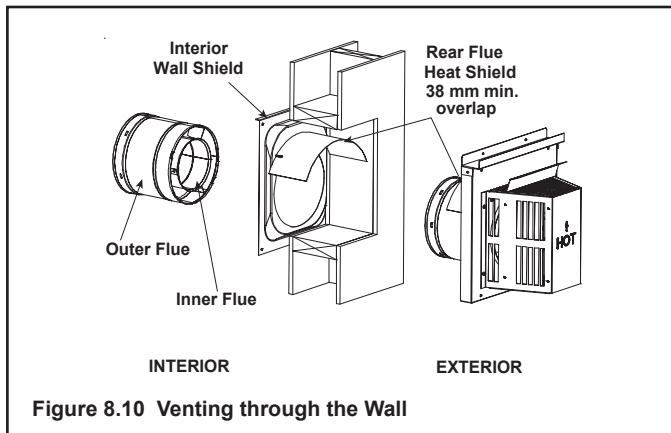

Figure 8.10 Venting through the Wall
- One section of the heat shield is attached to the wall shield. The other is attached to the termination cap in the same manner (see Figure 8.10).
- The small leg in the shield rests on top of the flue to properly space it from the pipe section (see Figure 8.10).
- **DO NOT** remove the heat shields attached to the wall shield firestop and the horizontal termination cap (shown in Figure 8.10).
There are two sections of the heat shield. One section is factory-attached to the wall shield firestop. The other section is factory-attached to the cap. See Figure 8.10.